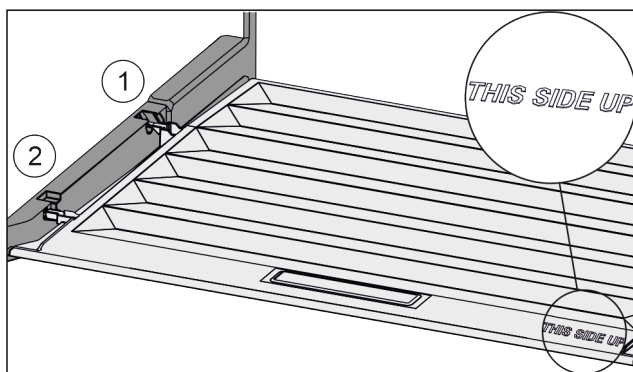

Fig. 148
- Insert the lip of the cover over the opening of the rear bracket Fig. 148 (1) and click into place Fig. 148 (2).